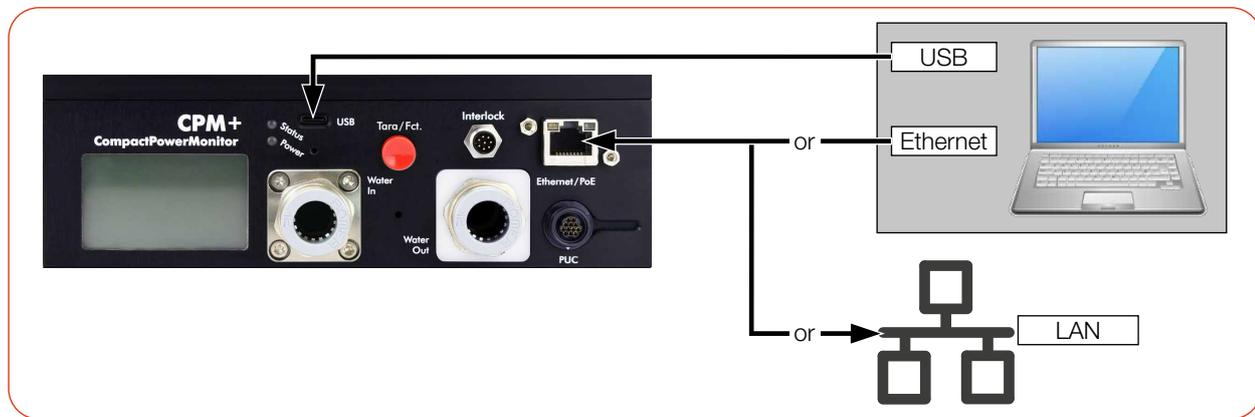

Fig. 7.4: Power supply via USB, data transfer via Ethernet
► Connect the cables according to Fig. 7.4 on page 28 an.